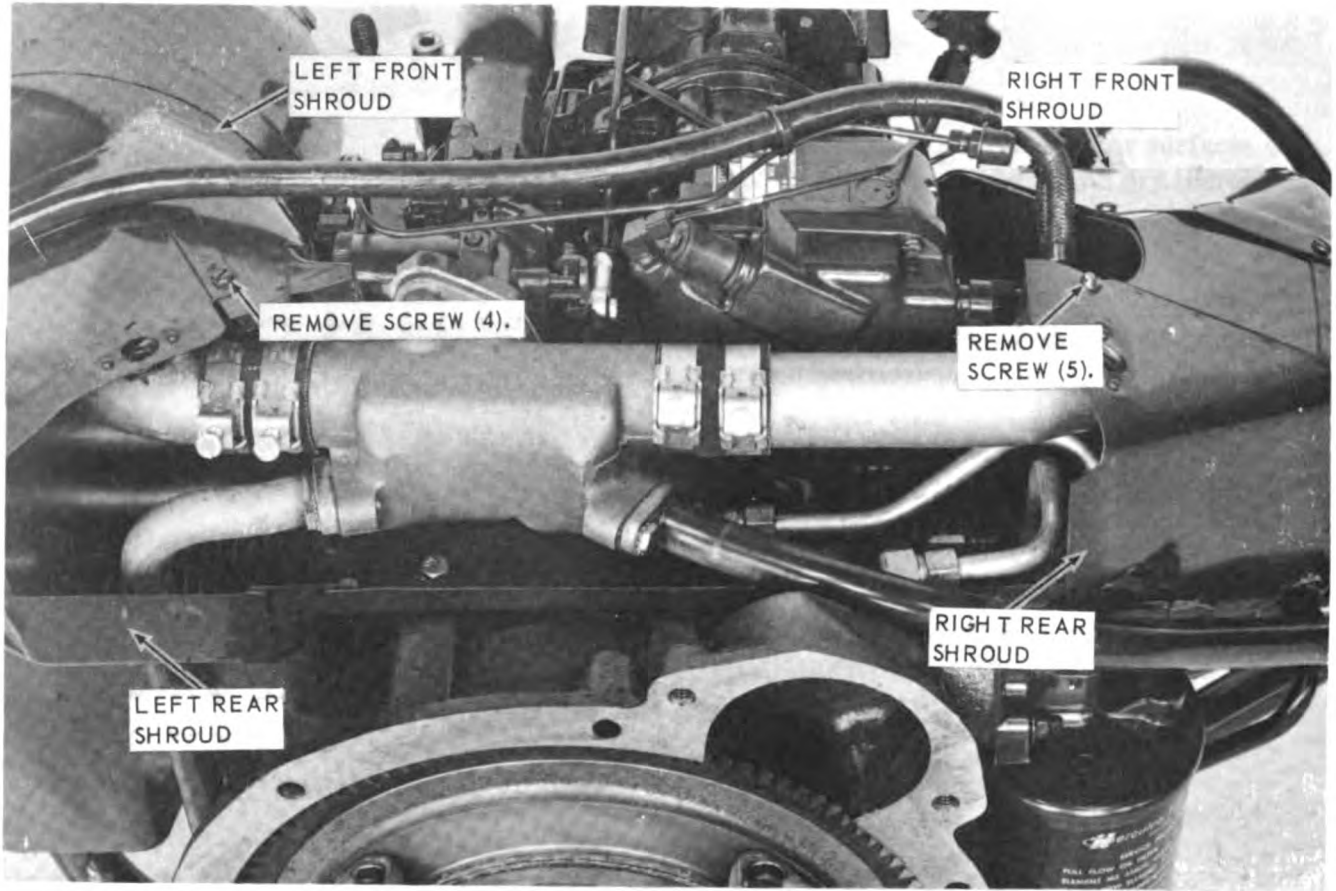

Figure 3-33. Left front, left rear, right front, and right rear shrouds, removal and installation.
(1) Remove the top shroud (para 3-37).
(2) Remove the fan (para 3-36).
(3) Refer to figure 3-33 and remove the left front, left rear, right front, and right rear shrouds.
(1) Refer to figure 3-33 and install the left front, left rear, right front, and right rear shrouds.
(2) Install the fan (para 3-36).
(3) Install the top shroud (para 3-37).